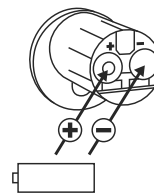

Fig. 3
- 3 Insert two new batteries. Make sure that the polarity is correct according to the drawing (Fig. 3).